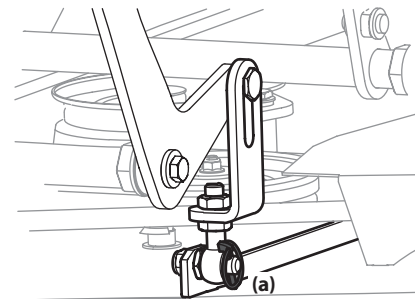

Figure 4-19
4. Remove the four lynch pins (a) that secure the deck to the deck lift assembly. See Figure 4-19.